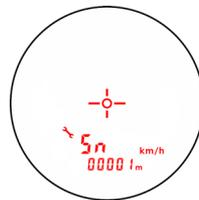

Figure 39
1. Press the  button repeatedly until the display looks similar to Figure 39. The serial number has 5 digits and appears in the upper and lower display. In this example, the serial number is "00001".
❗ Figure 39 uses serial number 00001 for the purpose of an example. Your TruSpeed Sxb may have a different serial number.